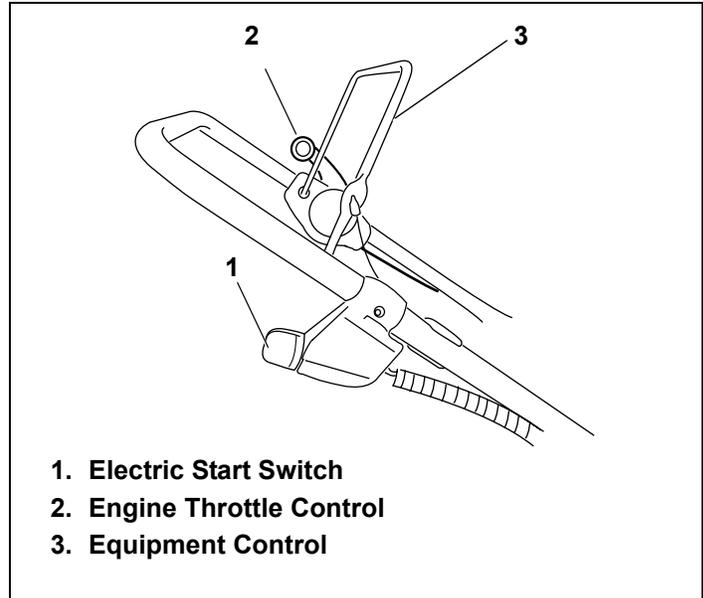

Figure 12. Typical Engine Controls
2. Move engine throttle control to "FAST" position, if present (see equipment manufacturer's instructions). See Figures 12 and 13.
4. Operate equipment control to release engine brake or clutch, if present (see equipment manufacturer's instructions). See Figure 12.
2. Move engine throttle control to “CHOKE” or “START” position, if present (see equipment manufacturer’s instructions). See Figures 12, 13 and 16 starting on page 7. Afterward, continue reading instructions below.
If restarting a warm engine after a short shutdown, move engine throttle control to “FAST” position instead of “CHOKE” or “START” position. See Figures 12, 13 and 16 starting on page 7. Afterward, continue reading instructions below.
3. Operate equipment control to release engine brake or clutch, if present (see equipment manufacturer’s instructions). See Figure 12 on page 7. Afterward, continue reading instructions below.
- b. Move engine throttle control to “FAST” position. See Figures 12, 13 and 16 starting on page 7. Afterward, continue reading instructions below.
- a. Move engine throttle control back to “CHOKE” position. See Figures 12, 13 and 16 starting on page 7. Afterward, continue reading instructions.
- b. Next, move engine throttle control to “FAST” position. See Figures 12, 13 and 16 starting on page 7. Afterward, continue reading instructions below.